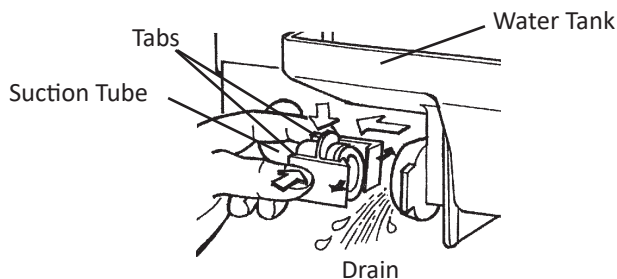

Fig. 38
- 3) Inside the ice storage bin, disconnect the suction tube by squeezing the tabs and pulling the tube clear. See Fig. 38. Allow the water tank to drain.